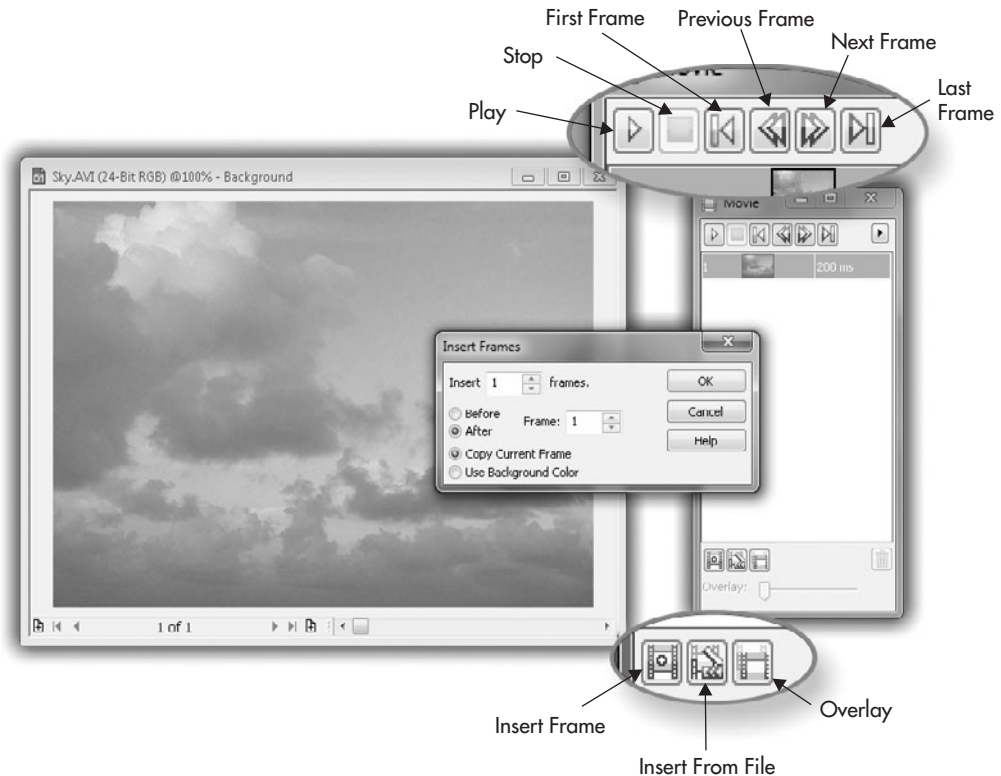

FIGURE 26-13 The Movie dock features DVD player–like controls for advancing and rewinding to the exact frame you want to build or edit.
5. Let Figure 26-13 be your visual reference for the rest of this chapter. What you're going to do is to create frames, and they exist in time as the airplane animates across the screen. The Objects docker isn't going to be of help—it won't show you what's going on in the document at any point in time—but the Movie docker will. First, click the First Frame button on the Movie docker. Your document is now at the first point in time for the GIF animation you'll build, and at this time there's nothing in the foreground. CTRL+click-drag the airplane in the Paper Airplane window into the Sky.avi window to copy (not move) the airplane object to on top of the sky. You have not really added the airplane to a "normal" document—it's a movie document and although the Objects docker shows the airplane object, it exists only in Frame 1 *in time*, not in any other frames.